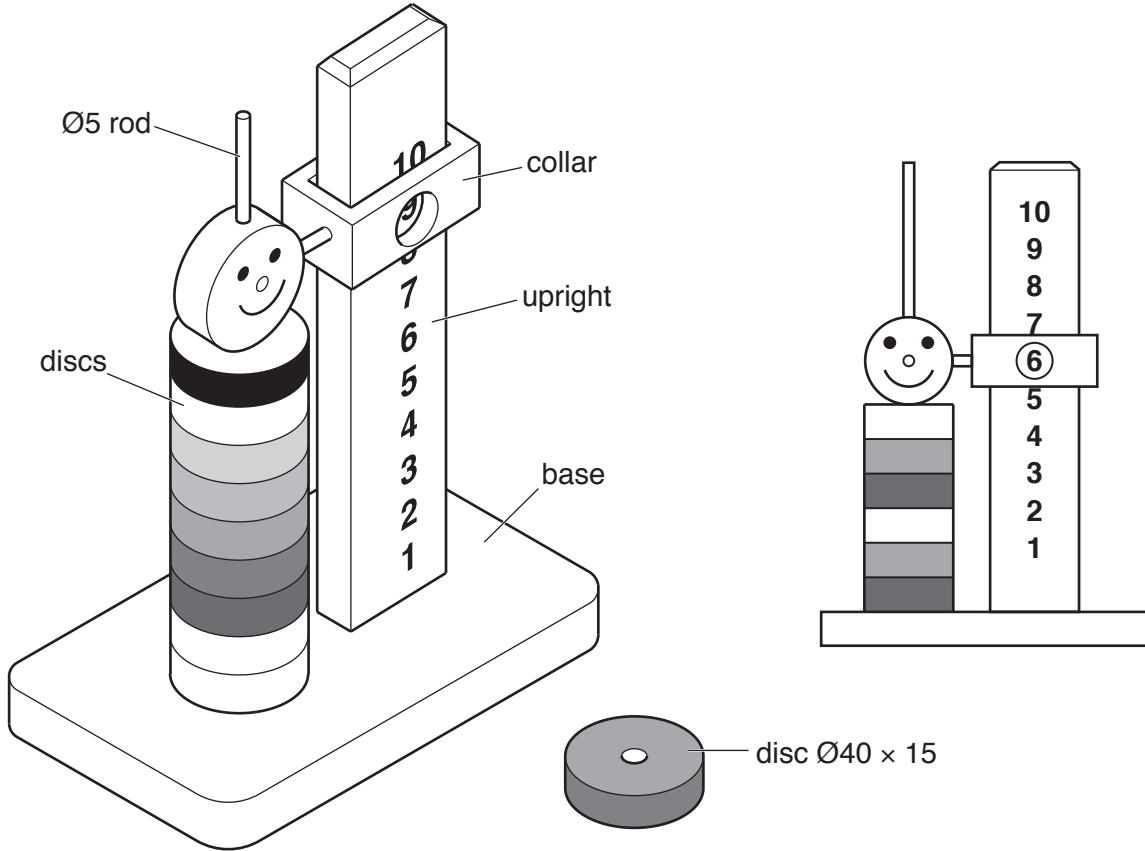

Fig. 9
- 11 Fig. 9 shows views of a child's counting toy. When the discs are stacked on the rod, the collar slides down on top of the discs to show the number of discs stacked.